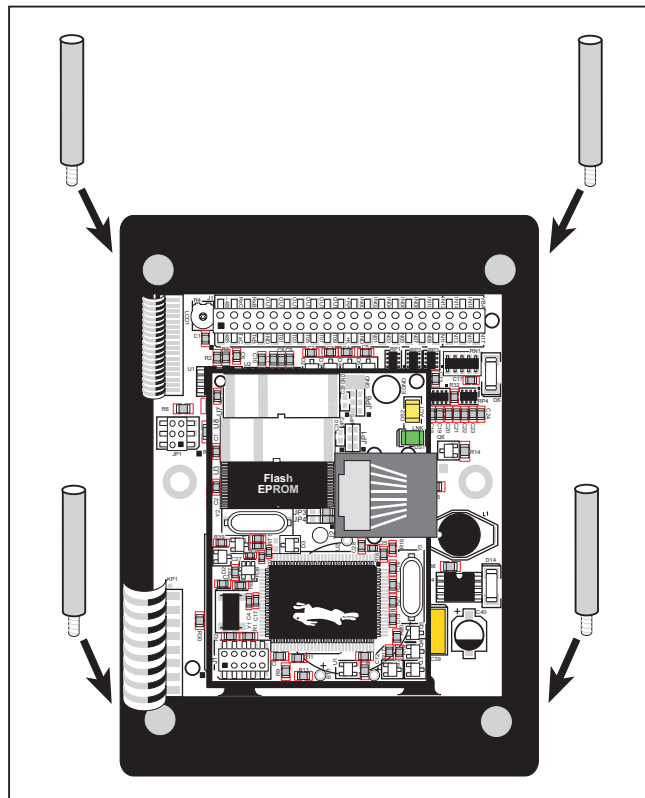

Figure 2. Screw In Standoffs Into OP6800 Mounting Threads
1. Screw in the four standoffs included with the Tool Kit into the four mounting threads on the OP6800 as shown in Figure 2.